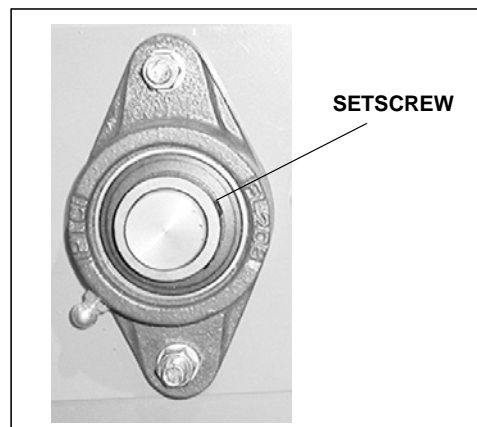

Figure 7. Setscrew on Flange Bearing
- Loosen the setscrews on the flange bearings or pillow block bearings so that the headshaft can be moved laterally. (See Figure 7 and 8)
9. Loosen the setscrews securing the bearings to the headshaft (Figure 7 or 8).